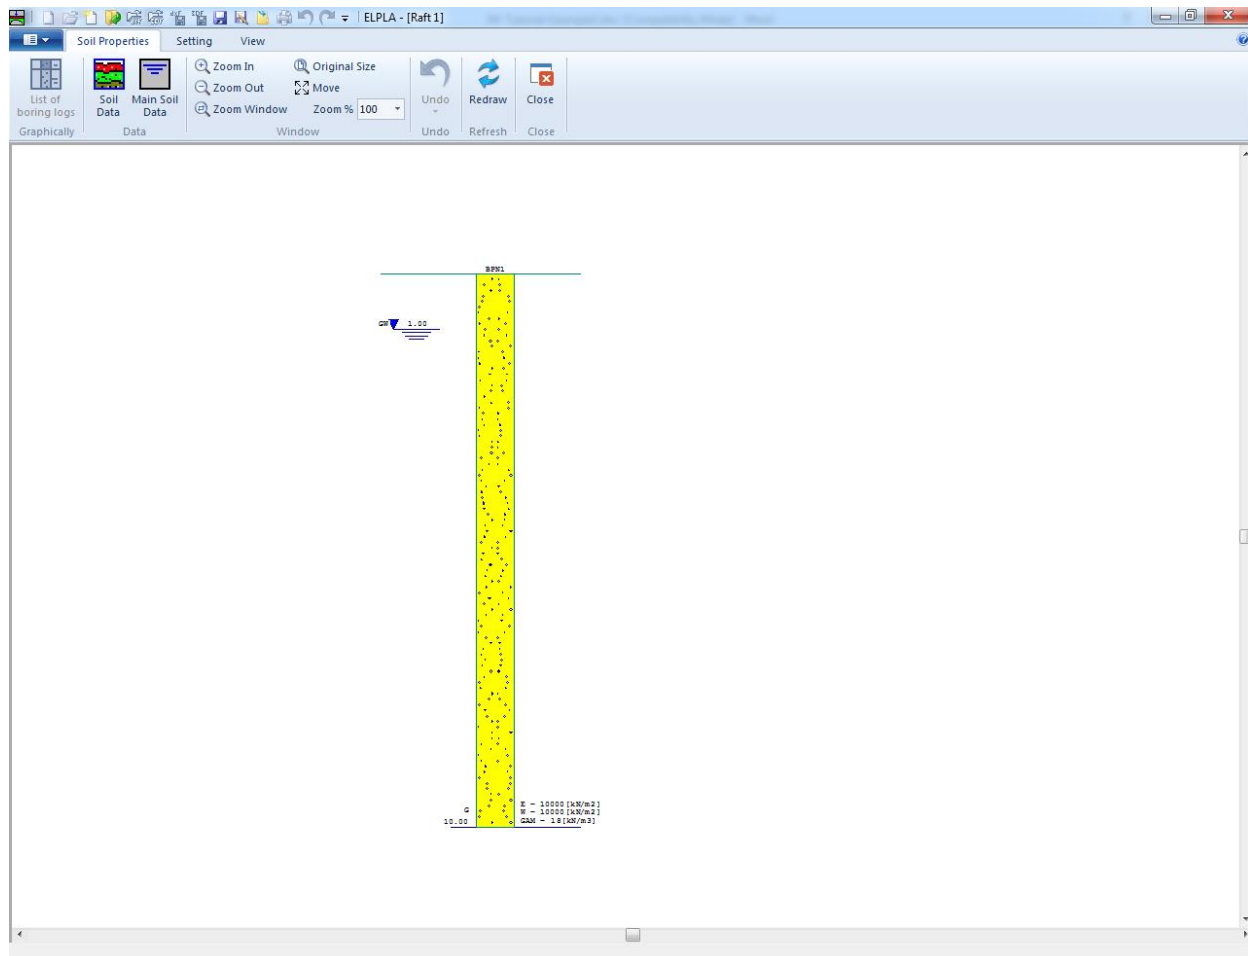

Figure 3.12 "Soil Properties" window with a default-boring log
To define the soil properties, choose "Soil Properties" command from "Date" Tab. The following Window in Figure 3.12 appears with a default-boring log.
- Choose "Main Soil Data" from "Data" menu in Figure 3.12. The following dialog group box in Figure 3.18 appears